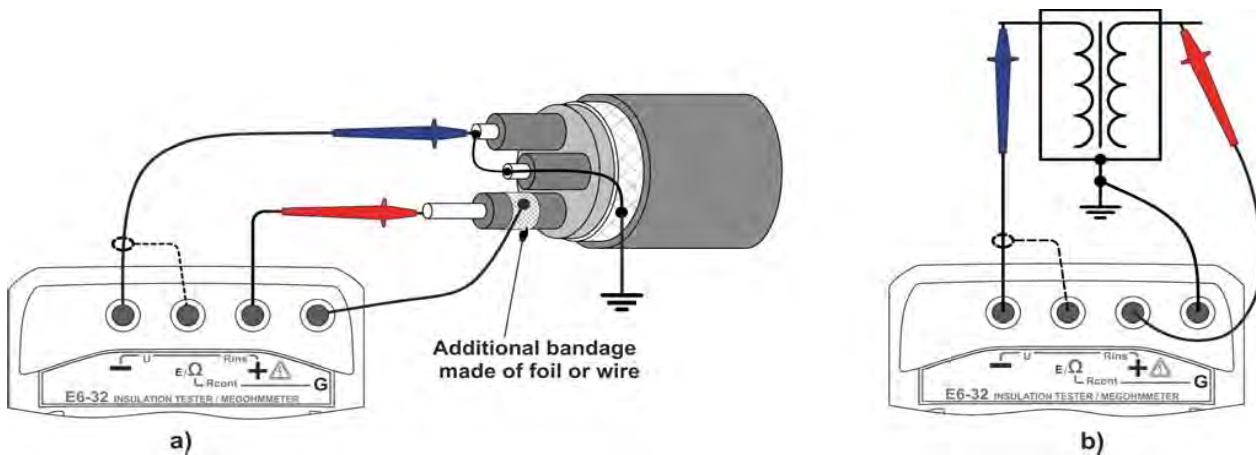

Figure 2.6 – Reduction of surface leakage currents influence
To avoid the influence of surface leakage currents (e.g. caused by contamination of the measured object surface) use connection diagrams with three measuring cables. In case of insulation resistance measurement between cable wires, the protective ring shall be used (piece of foil mounted on the insulator of one of the wires and connected to the socket "G" of megohmmeter (see Figure 2.6 a). In case of insulation test between transformer coils, connect transformer case to the socket "G", see Figure 2.6 b.
- normally, if one of the contacts of the measured resistance is grounded (Figure 2.6.a), it is recommended to connect "-" of the instrument to it. However, in case of unstable readings the change of connection polarity can provide more stable readings.